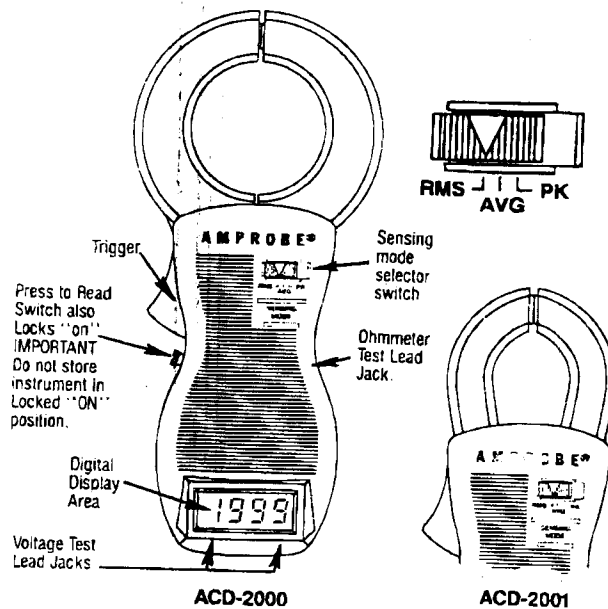
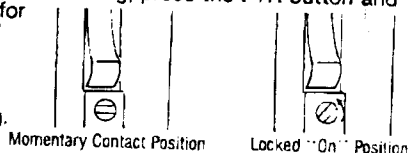

Fig. 1
Figure 4
- 3) Plug ohmmeter lead into jack on the right side of the instrument (See fig. 1).
For continuous operation, move the "sensing mode" selector to "RMS" or "AVG" position. For peak measurements, move the "sensing mode" selector switch to "peak" position (see fig. 1) and wait 3 seconds for the "peak hold" annunciator to appear in the display before taking a reading.
To take a reading once the instrument has been connected as per the following instructions, push in the PTR button. (See fig. 1) to lock the PTR button "on" for a constant readout, gently push in the PTR button and while depressed turn it counterclockwise 1/8 turn (fig. 4.) When taking a peak reading, press the PTR button and wait 3 seconds for the "peak hold" annunciator to appear on the display before taking a reading.
3. Insert insulated voltage test lead connectors into voltage receptacles in bottom of instrument (see fig. 1). Push in against receptacle spring and twist clock-wise to lock in place.